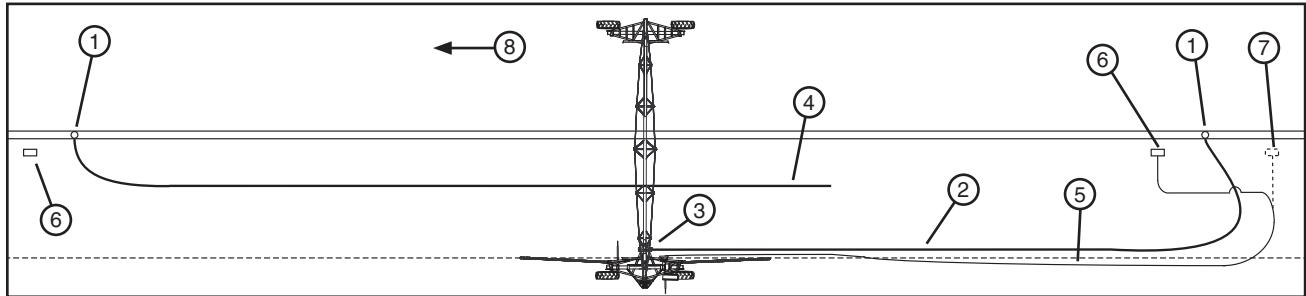

Figure 57-1 1. Shut Off Valve 3. Tee Inlet 5. Electric Cord 7. Alternate Power Pedestal and Electric Cord Position
21. As the machine approaches the end of field/hose stop post, Stop the machine and close the water shut off valve for the first hose. See figure 57-1.